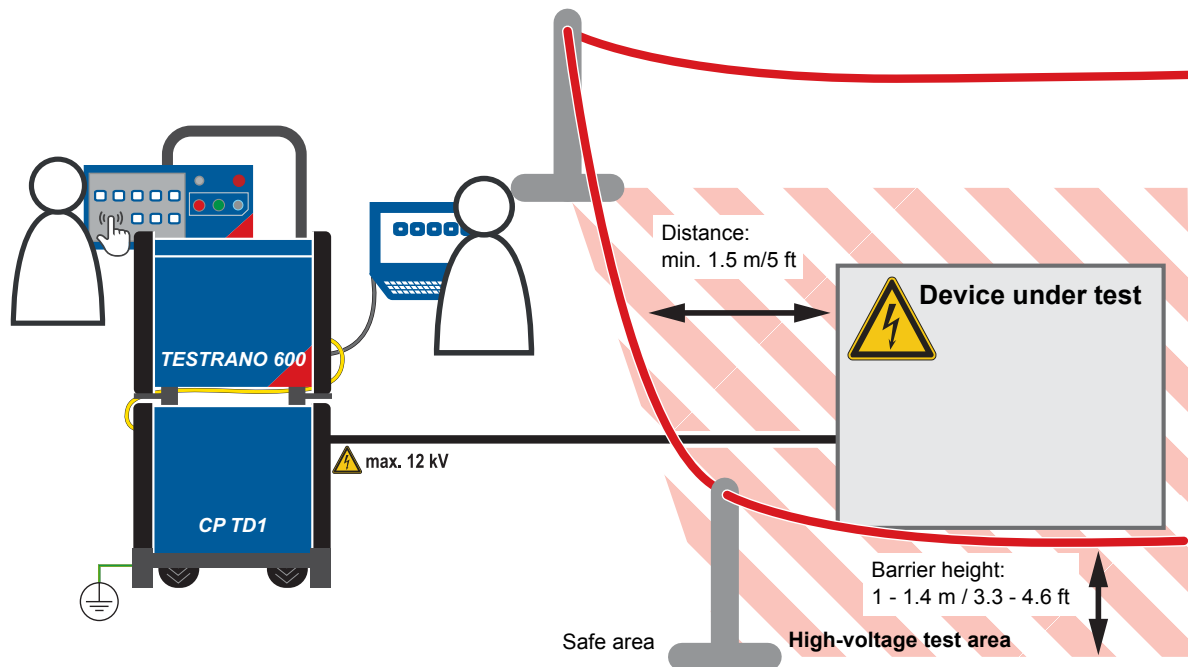

Figure 1-1: Illustration of safe area and high-voltage area established for working with *TESTRANO 600* and *CP TD1*
- ▶ Separate your working area – see Figure 1-1: "Illustration of safe area and high-voltage area established for working with TESTRANO 600 and CP TD1" on page 5.